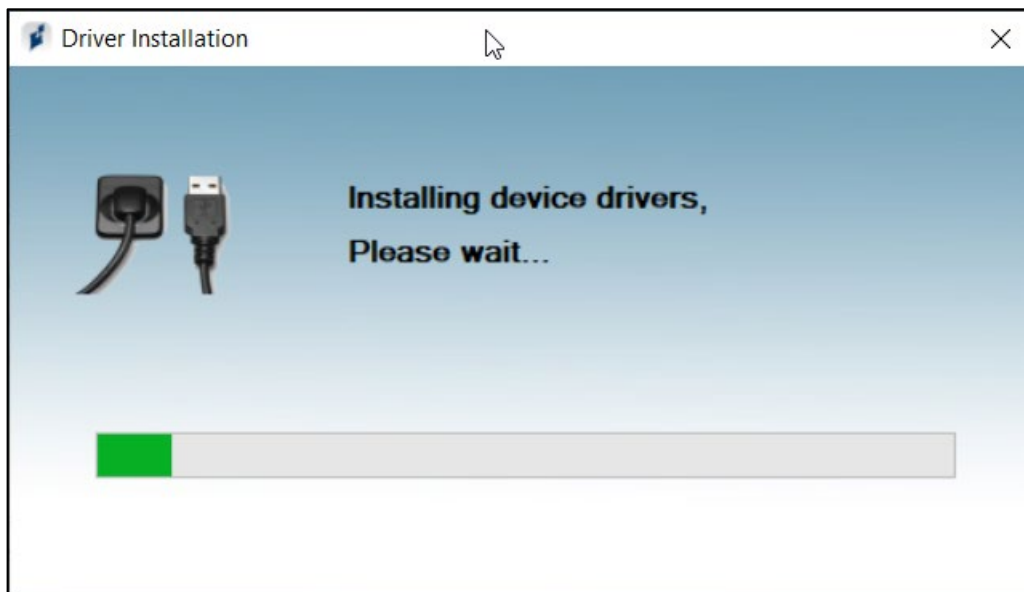

Figure 6. The Driver Installation pop-up.
- The “Driver Installation” pop-up appears with a green progress bar that extends to the right as installation occurs. Wait for the bar to fully load. See Figure 6 below.